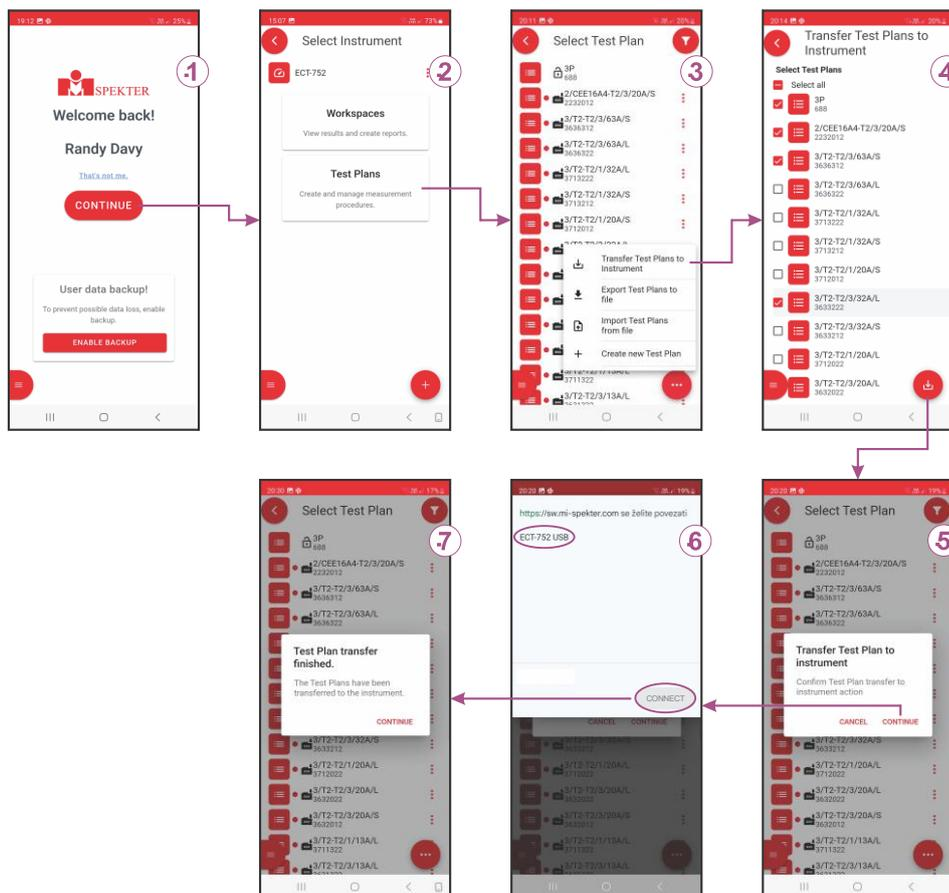

Figure 15: Principle of how to transfer Test Plans to the Tester
Keep the Instrument in this mode and continue with “MiControl” application actions as shown on Figure 15:
Explanation of screens on Figure 15:
- Start from screen 3 on the Figure 15 and select **Export Test Plans to file** option.
- Start from screen 3 on the Figure 15 and select **Import Test Plans from file** option.